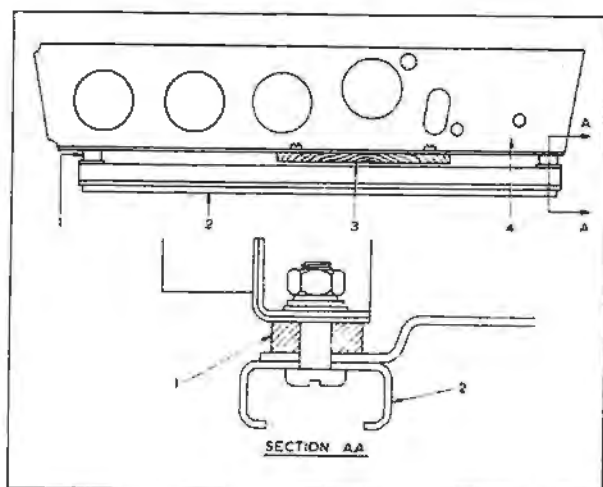

Fig. S.27.—Method of fitting hardwood block to eliminate front seat rattles.
- (i) Remove the existing mount and in its place fit a short hardwood block and aluminium distance pieces as shown in Figure S.27, then refit the runners.